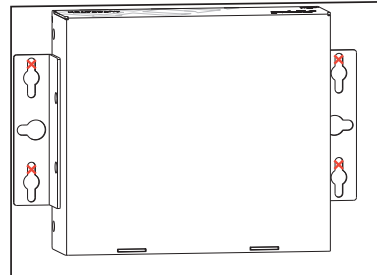

FIG. 3 MARK SCREW POSITIONS
1. Place the NMX-MM-1000 in the desired final position on the mounting surface and mark the screw position as indicated in FIG. 3.